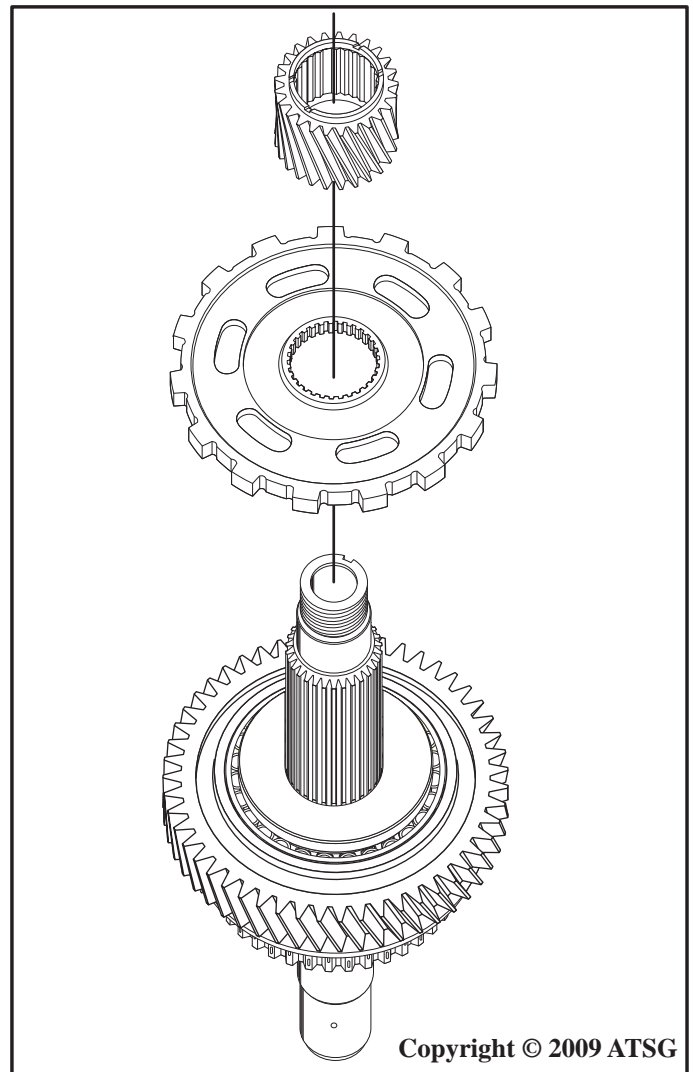

Figure 76
12. Using SST 09506-35010, 09950-60010 (09951-00250) or equivalent, press the parking lock gear **while turning the counter driven gear** and seat it against the tapered roller bearing as shown in Figure 76.
13. Using SST 09506-35010, 09950-60010 (09951-00250) or equivalent, press, the differential drive pinion gear **while turning the counter driven gear** and seat it against the parking lock gear as shown in Figure 76.